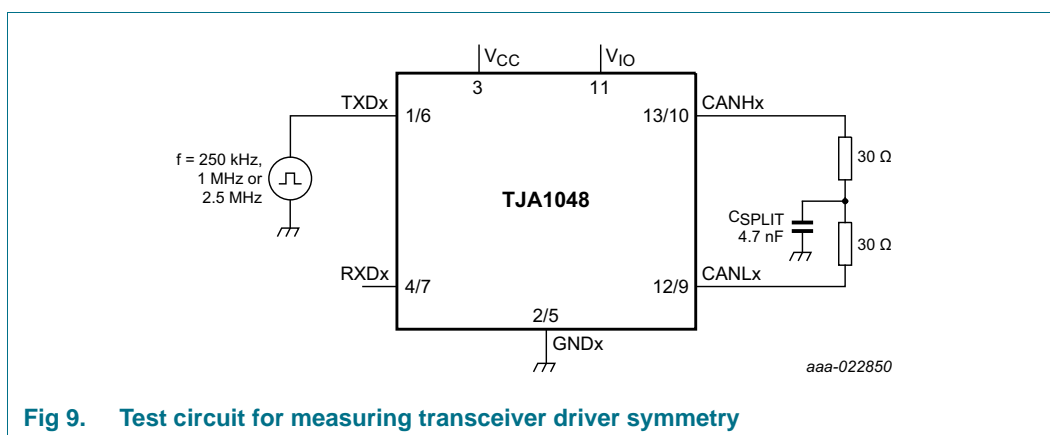

Fig 9. Test circuit for measuring transceiver driver symmetry
- [9] The test circuit used to measure the bus output voltage symmetry (which includes CSPLIT) is shown in Figure 9.